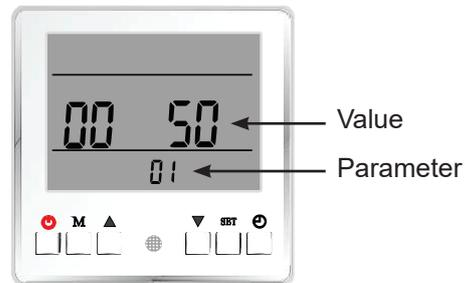

Figure 7-14 Advanced Mode Menu
- c.- Once the password values have been entered, press “SET”, the display will appear as in Figure 7-14;